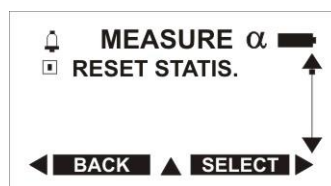

Figure 2.18
After pressing the upper button the instrument will shift into the submenu of the "MEASUREMENT α " mode (Figure 2.18).
The instrument's operation in the submenu of the "MEASUREMENT α " mode at the "RESET STATIS." (Figure 2.18) option selection is similar to its operation in the "MEASUREMENT γ " submenu, described above (item 2.2.5).